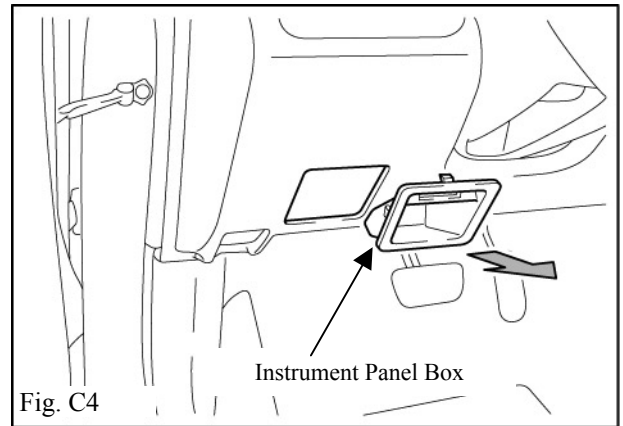

Fig. C4
- 8. Remove the instrument panel box. (Fig. C4)